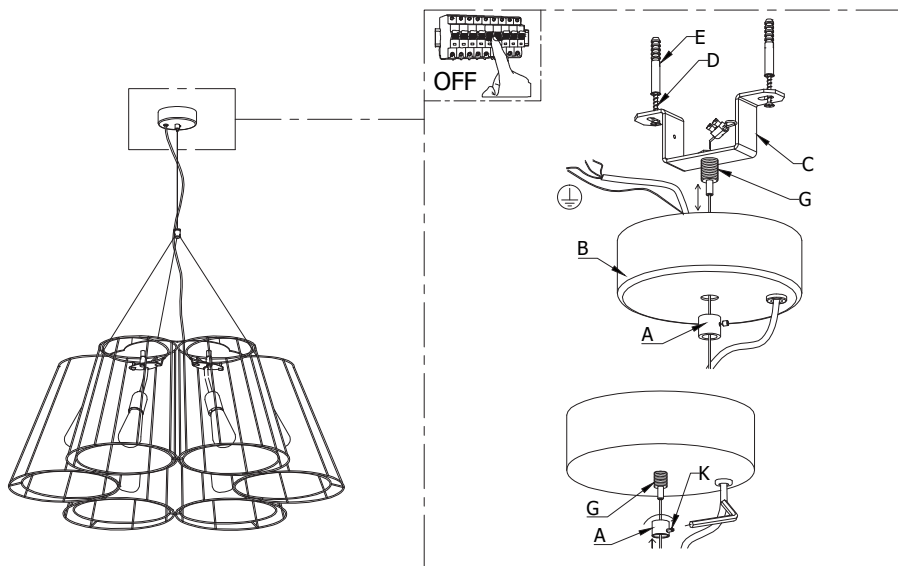

Fig.1
- Unscrew the handle (A) and lower the canopy (B). (Fig1)
- Fix the bracket (C) with screw (D) and dowels (E) on the ceiling. (Fig1)
- Adjust the length of the cable securing the clamp (F). (Fig1)
- Place the canopy in the ceiling. Screw with care the particular (A). (Fig1)
- Unscrew the handle (A) and lower the canopy (B). Fix the bracket (C) with screw (D) and dowels (E) on the ceiling. (FIG.1)
- Adjust the length of the steel cable acting on regulating terminal security (G), push the part of the gripper so that the steel cable runs. (Fig.1)
- Unscrew the handle (A) and lower the canopy (B).(Fig.1)
- Place the canopy in the ceiling. Screw with care the particular (A), the block cable (G).(Fig.1).
- Screw the safety screw (K) (Fig.1).
- It's possible to remove completely the lampshades by unscrewing with a screwdriver the two screws (S) that join the lampshade to the structure.
- Unscrew the handle (A) and lower the canopy (B).(FIG.1)
- Connect the network cables at the clamp (E) , check the polarity as shows and close again the box (D) (Fig. 1).